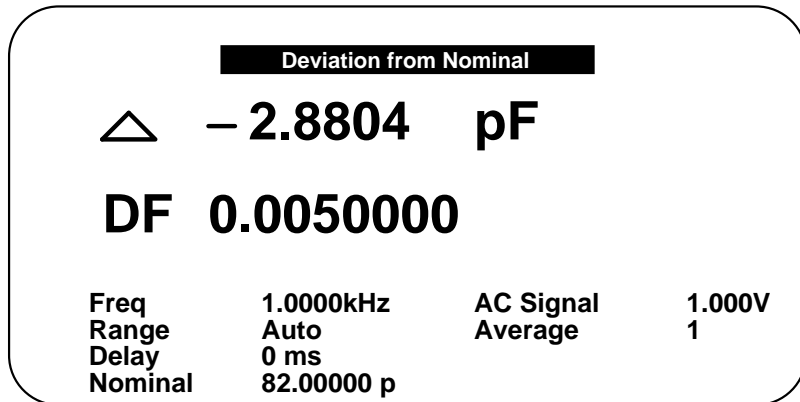

Figure 2-13
- **% Deviation from Nominal** - Display is the measurement in terms of a percent difference above or below (-) a stored nominal value (also refer to paragraph 2.6.3.2). It should be noted that the nominal value is only shown in this display and the Deviation from Nominal display (Figure 2-13).